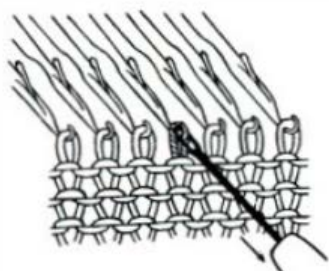

Fig. 28
- a. Hold the transfer tool parallel with the needles in the needle bed. Place the eye of the transfer tool into the hook of the needle. (See Fig. 28)